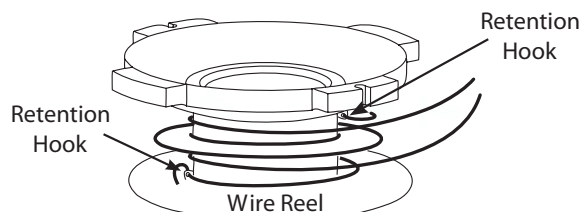
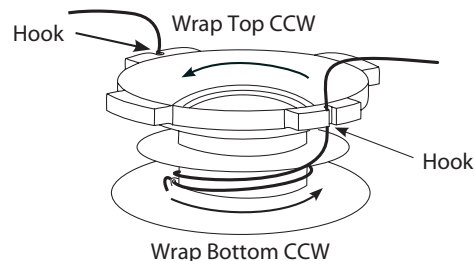

Fig. 26
Fig. 27
7. Wrap line 180° and wind extra line in the opposite direction of rotation of the head as shown (Fig. 26).
8. Continue winding cord in direction indicated as shown, leave about 6 inches free length (15-20 cm) to pull wire through holes in body. Snap the lines through top notches in reel (Fig. 26 and Fig. 27).